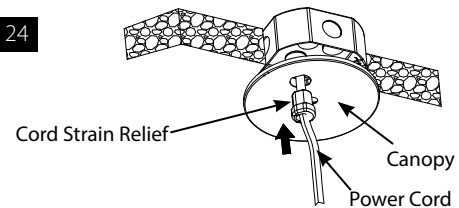

Fig: 25
5. Place the **Canopy** on the mounting surface. Push **Cable Coupler** on the threaded **Cross Brace Stud** and tighten to secure the **Canopy** (Fig. 25).